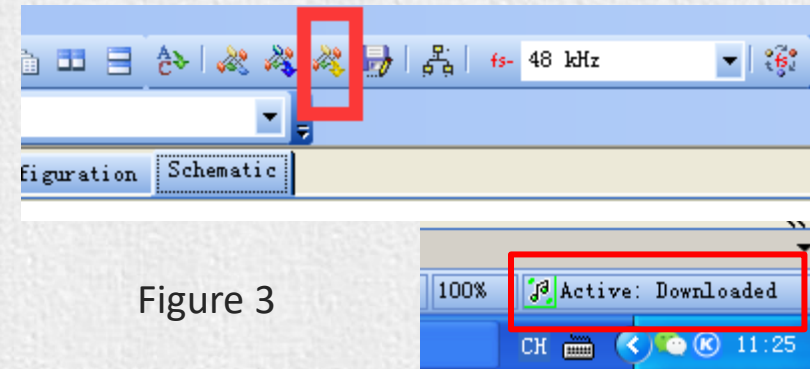

Figure 3
2. Click the “Link Compile Download” (see figure 3) and you will find “Active: Compiled” in the lower right corner of your computer.